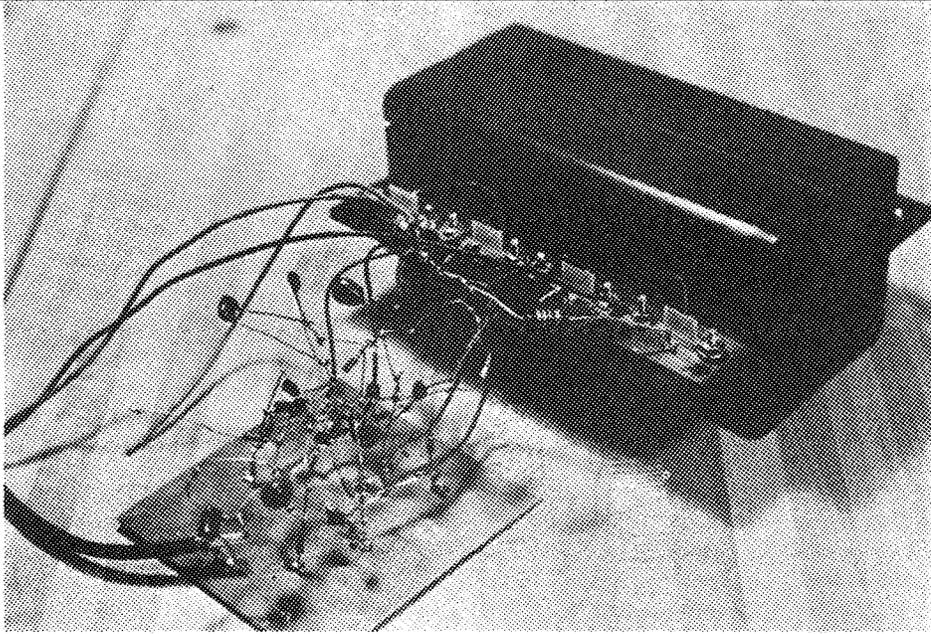

Fig. 23. The prototype. Hardy portable.
To forestall questions which inevitably arise: 1. No, you cannot easily modify the design for higher power. 2. Yes, you could decrease the bias into AB and have it work well. 3. Signal Transformer is at 500 Bayview Ave., Inwood NY 11696 (516) 239-7200 and they require cashier's checks in advance. (Their 88-8 weighs 22.8 lbs. and lists for \$56.18.) 4. No parts substitutions. 5. Usually you have to get the heat sinks surplus, but I don't know where. 6. Yes, you can bridge the amplifier for mono operation. For those interested in origins, Fig. 23 is a photo of the original prototype channel. It still works quite well. However it is not very portable. Good luck.